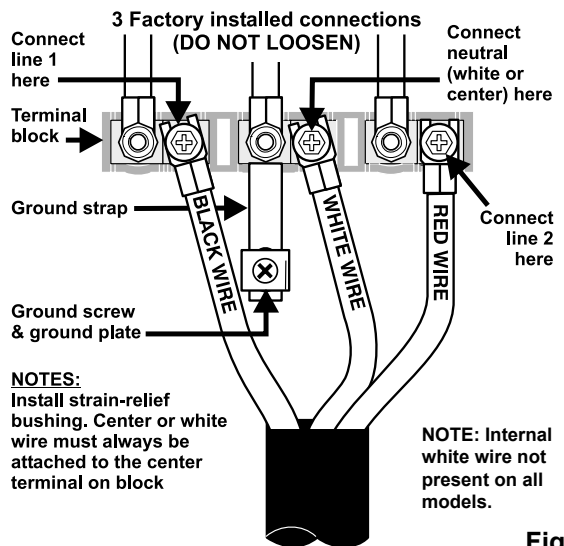

Fig. 13
4B. POWER CORD CONNECTIONS (3-Wire Connection Instructions For existing installations ONLY - Refer to Fig. 13).
2. Insert the end connectors for Line 1, Line 2 and Neutral and tighten securely to the terminal block (See Fig. 13). **IMPORTANT NOTE: DO NOT LOOSEN** the factory installed nut connections which secure the range wiring to the terminal block. Electrical failure or loss of electrical connection may occur if these 3 nuts are loosened or removed.
A ground strap is installed on this range which connects the center terminal of the terminal block (Neutral) to the range chassis. The ground strap is connected to the range by the center, lowest screw (See Fig. 13). The ground strap must not be removed unless National, State or Local Codes do not permit use of a ground strap.